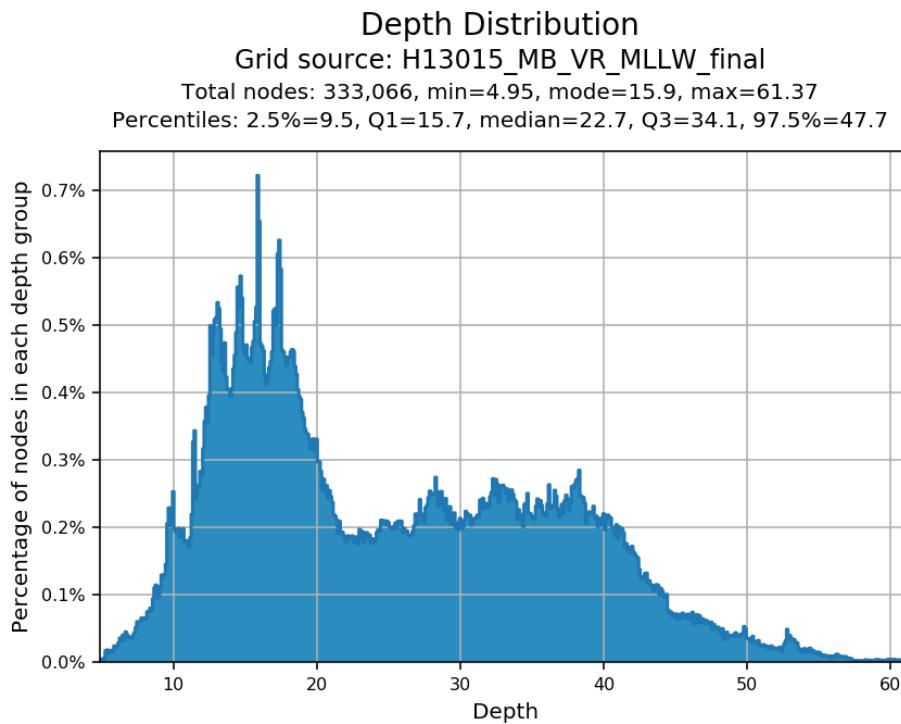

Fig. 2.29: A histogram of the percentage of total nodes at each depth represented in the surface.
- Depth Distribution (Fig. 2.29).